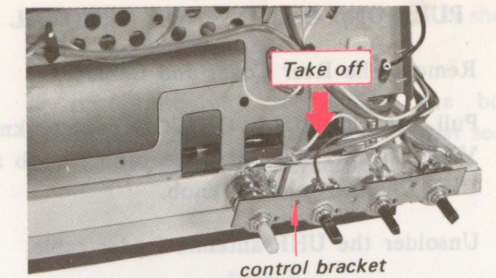

Fig. 2-9. Controls are accessible when the bracket is free
4. Take off the Control Bracket as shown in Fig. 2-9.